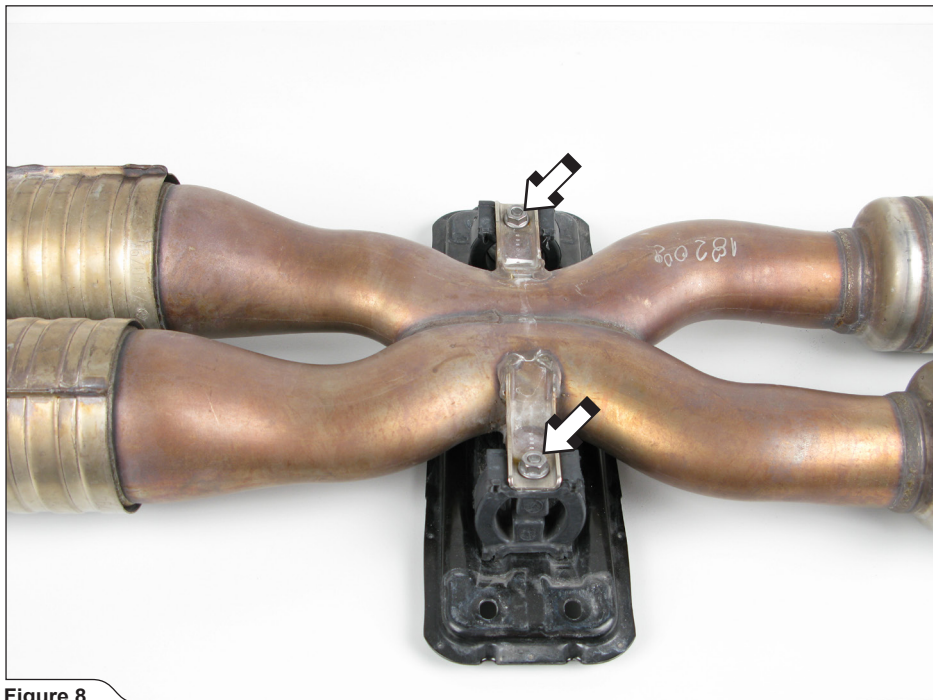

Figure 8
8. Unscrew the marked nuts and remove the bracket from stock middle pipes (**Figure 8**).